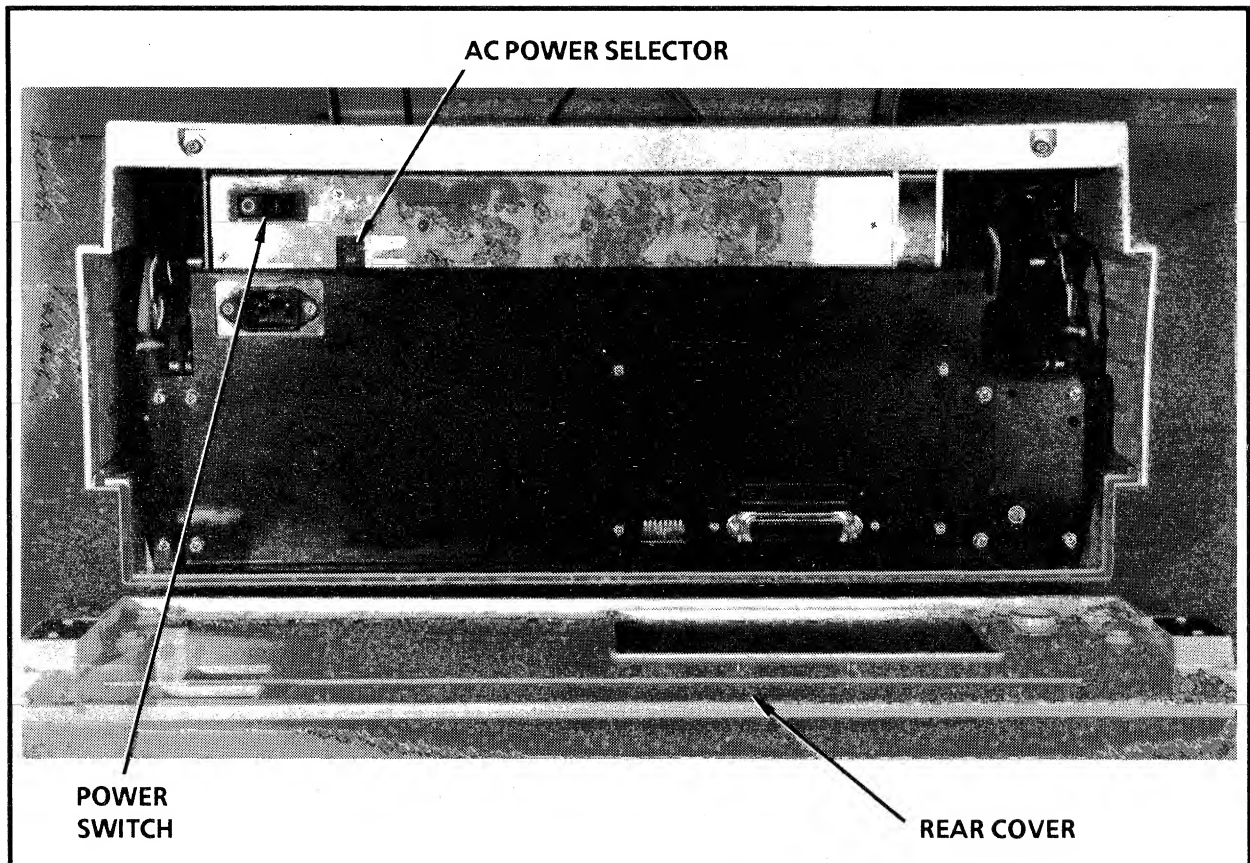

Figure 4-2. Power Entry Panel (*Rear Cover Removed*)
1. Ensure the power cord is connected at the rear of the plotter (Figure 4-2) and to a *live* facility ac power outlet.
2. Press the POWER switch (shown in Figure 4-2) to power ON the plotter. When the plotter is powered ON, the POWER and NORMAL (INTENSITY) indicators on the control panel light. The ON LINE indicator lights approximately two seconds after power-up, letting you know the plotter is ready to accept host commands and plot data.